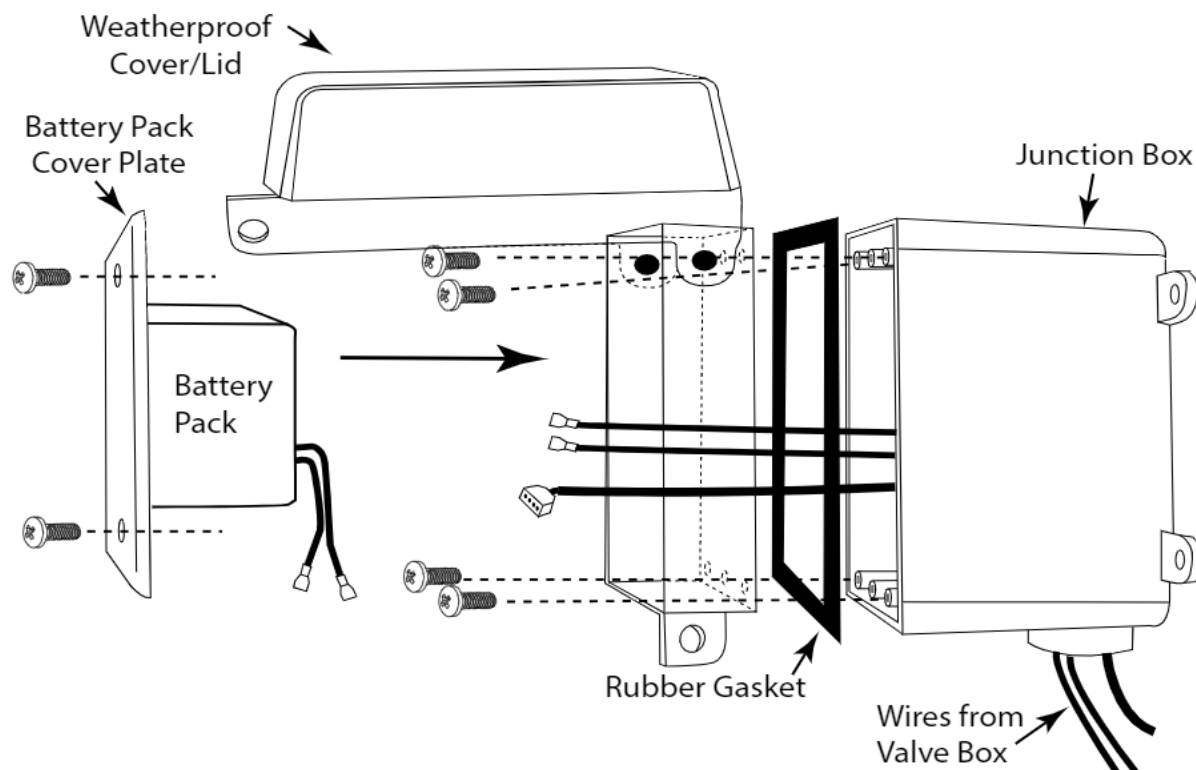
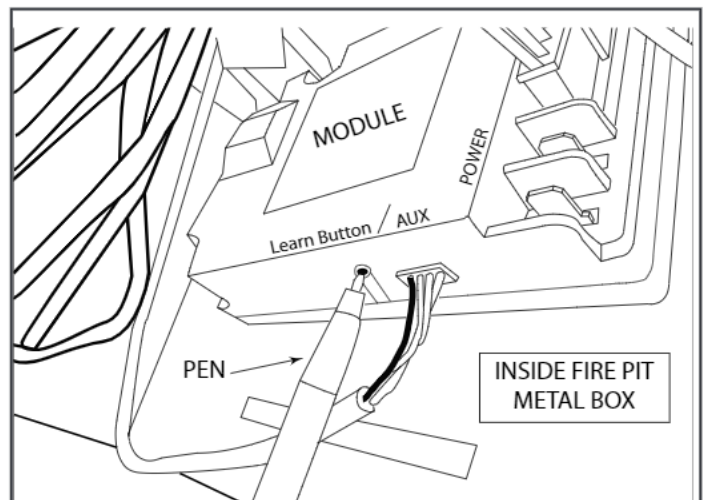

Fig. 7 Weatherproof Cover/Lid
Fig 10 Learn button location
2. Install the junction box and secure into position. **Note:** Junction box should be flush with the finish materials to ensure weatherproof cover/lid has room (clearance) to open. See Fig. 7.
3. The fire pit has 12-feet of wiring outside of the valve box underneath the burner pan. One end of the wiring has a 4-pin connector. The others are (2) two individual wires (one black and one red) with ¼" female connectors.
4. Feed the wire ends into the junction box and out the front (approximately 4-6 inches) to connect to battery pack (See wiring diagram on page 14, Fig.10 and Fig. 7).
3. Once the Learn button is located, press and release the button once. You will hear a beep indicating that the module is ready to receive a transmitter code (See Fig. 10)